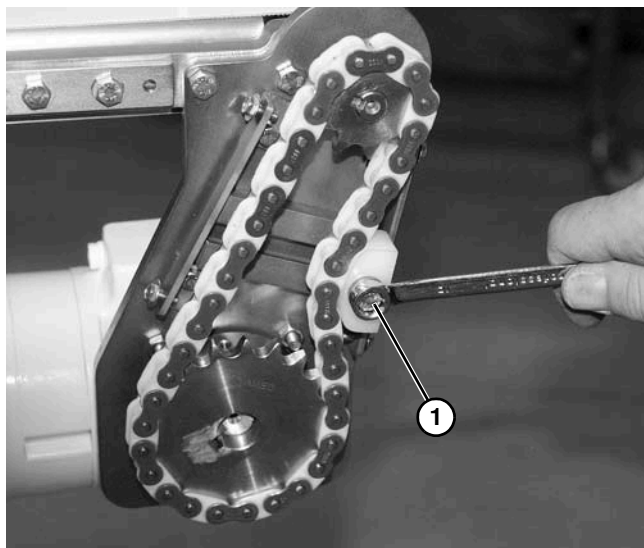

Figure 57
3. Remove timing chain tensioner screw (Figure 57, item 1).